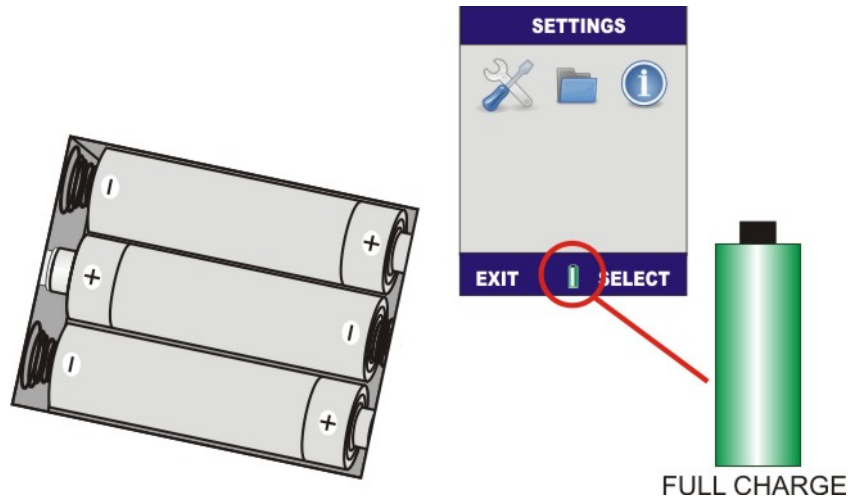

Figure 2 Battery Charge Indicator and Battery Installation.
**BATTERY INSTALLATION** (Refer to Figure 2)